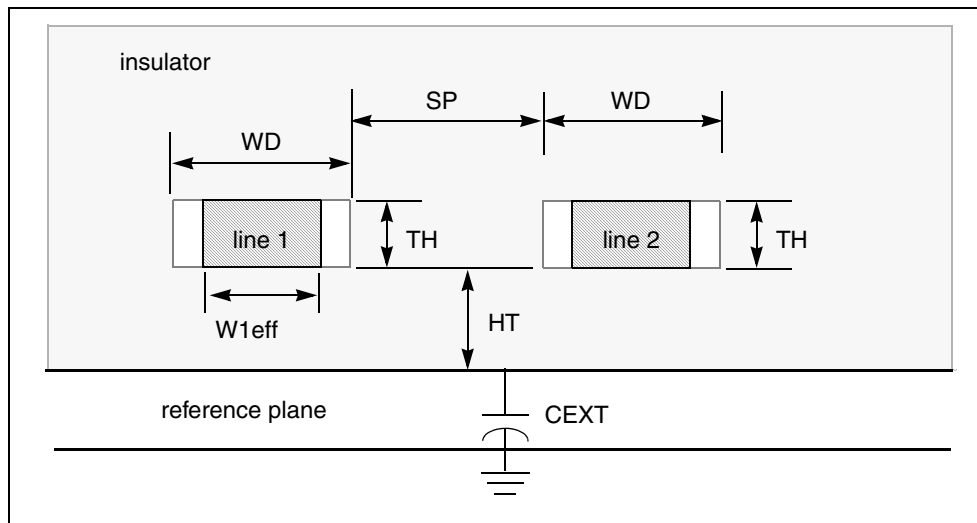

Figure 81 Planar Transmission Line, DLEV=0, Sea of Dielectric
- DLEV=0 – microstrip sea of dielectric. This planar conductor has a single reference plane and a common dielectric surrounding conductor (see Figure 81 on page 287).